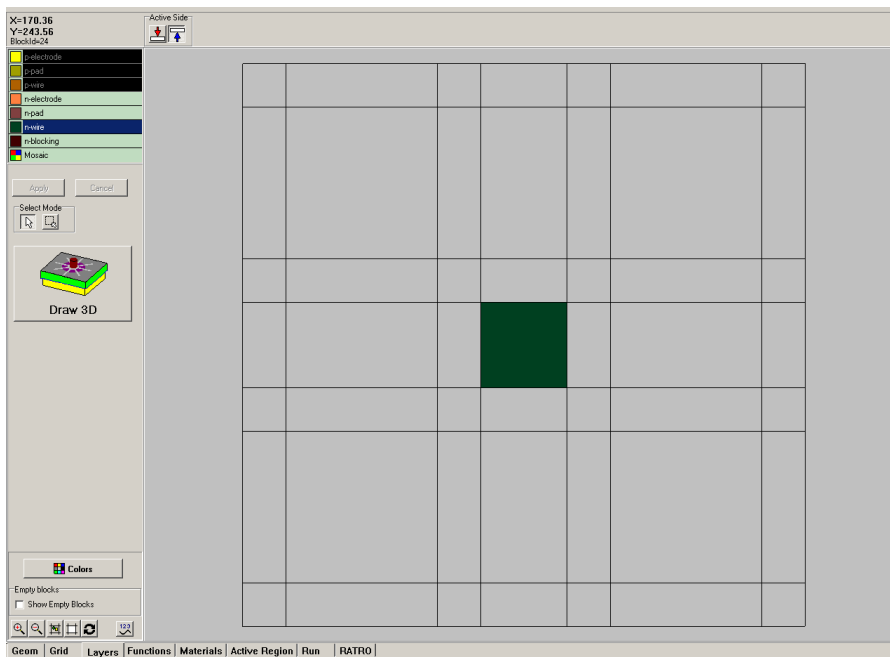

Fig. 33
**n Pad.** Area of the pad on n-electrode (see Fig. 33). This layer should lie inside the n-electrode.
- Select the block(s) which to be added to the selected layer. The selected blocks are colored with the color corresponding to the selected layer. Each layer can consist of an arbitrary number of contours, which can be either adjacent to each other or separated. There are two selection modes which can be chosen by the two buttons in the *Select Mode* rectangle below the list of the layers (see Fig. 33):